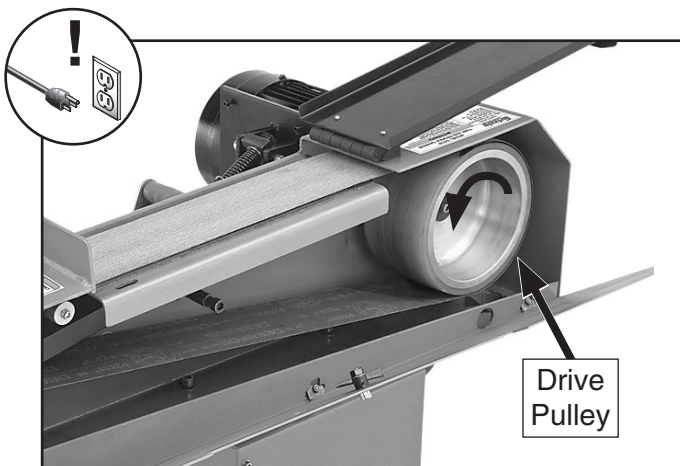

Figure 25. Location of drive pulley.
3. Rotate drive pulley (see **Figure 25**) counterclockwise several times by hand.